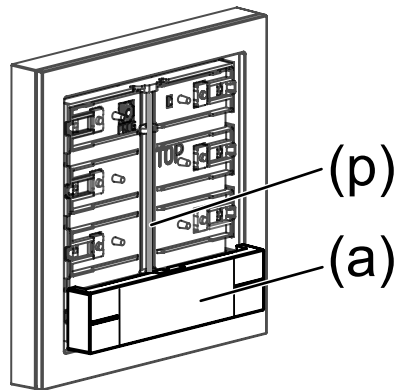

Figure 7: Position rocker straight
- Position the rocker (a) straight (see figure 7).